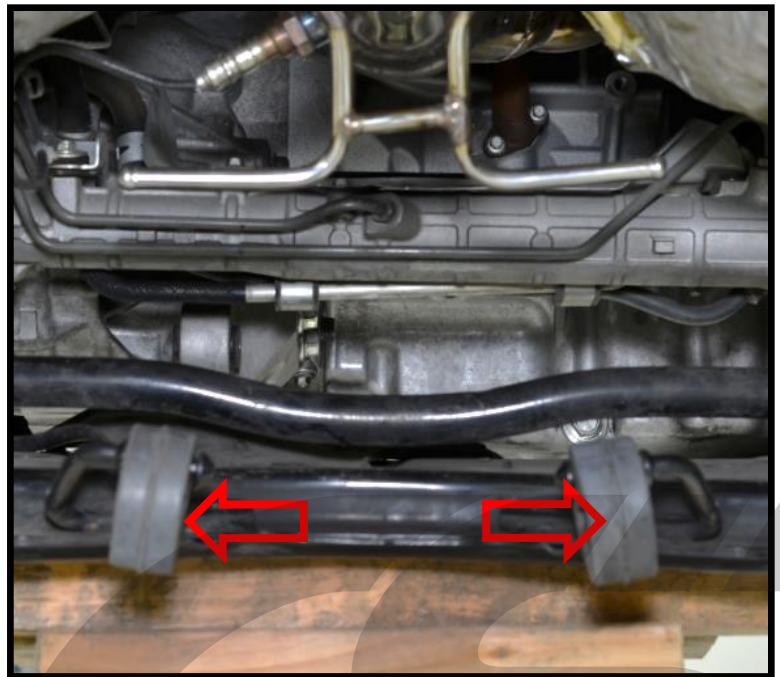

Figure 2f
- g) Remove the two downpipe bushings from the sub frame. The sub frame will now be free to move around. Figure 2f shows the bushings disconnected. Bushings shown with red arrows.